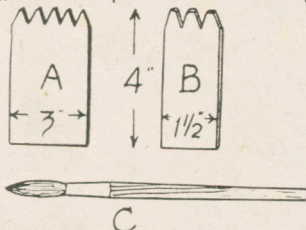

Fig. 1—The three tools needed
The tools needed are one or two combs, made in leather, $\frac{1}{8}$ in. thick, and shaped as at Fig. 1 (A) and (B); a small hog's hair brush, known as a fitch, shown at (C) for lining work, that is putting in the grain on mahogany and walnut imitations, will also be required.